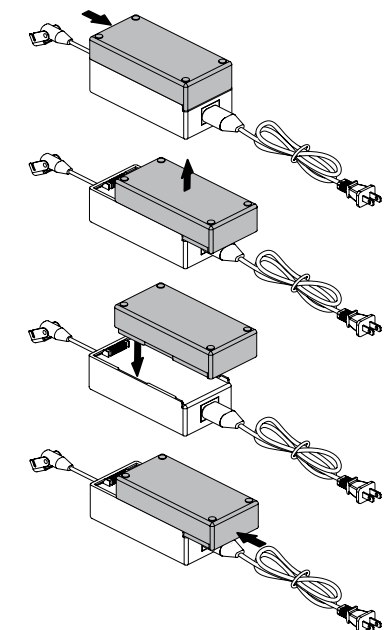

Figure 6.7.2 Lithium-ion Battery Replacement
5. Place the new lithium-ion battery on top of the external transformer with the securement grooves toward the external transformer. (Figure 6.7.2)